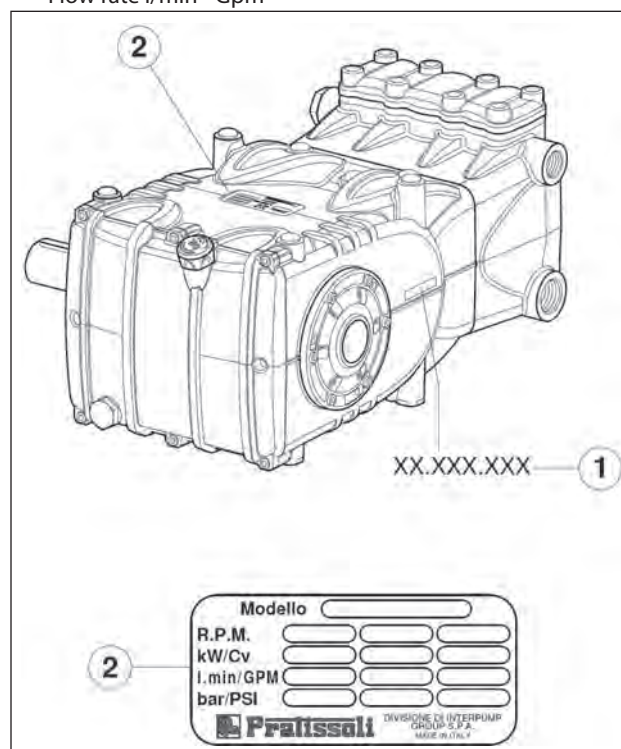

Fig. 1
Each pump has its own Serial No. XX.XXX.XXX see pos. ① and an identification label, see pos. ② of Fig. 1 which shows: